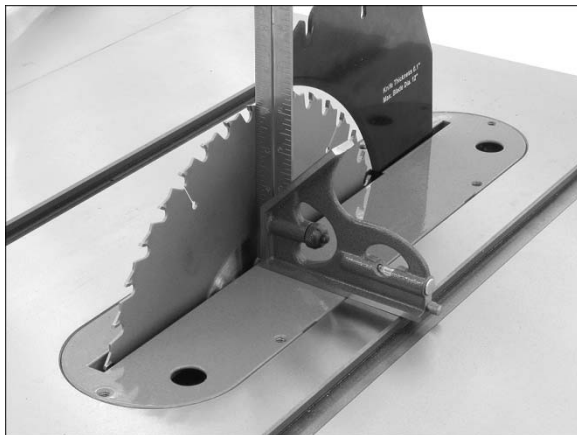

Figure 19
4. Place a square on the table and check to see that blade is at 90-degree angle to table (Figure 19). Make sure square is not touching a blade tooth.